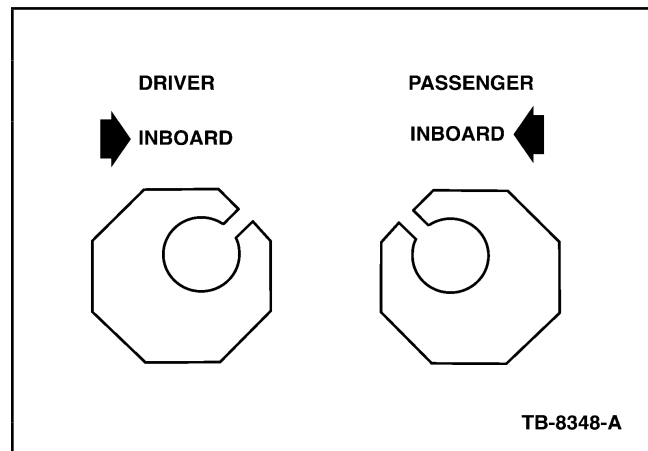

Figure 1 - Article 07-10-10
- Rotate the alignment adjustment bushing so that the bushing hole is in the 45 degree forward and inboard position. (See Figure 1)